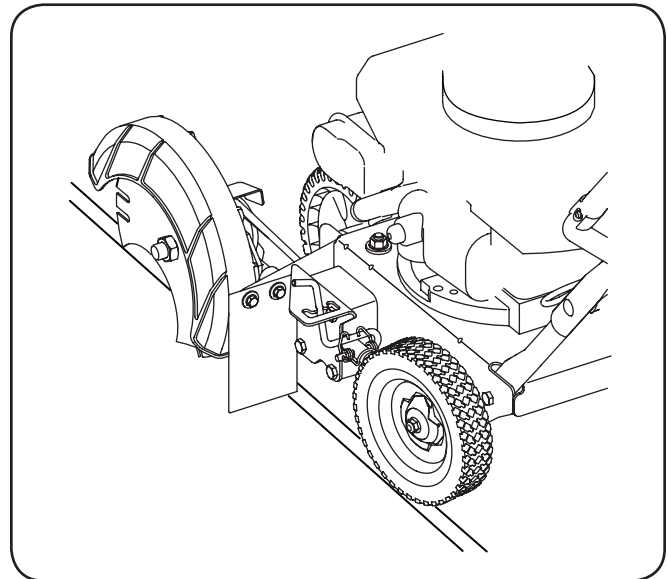

Figure 5-1
1. Move edger to an area to be edged, making sure that the left rear wheel is on a hard surface and the blade is over the area to be cut. See Fig. 5-1.